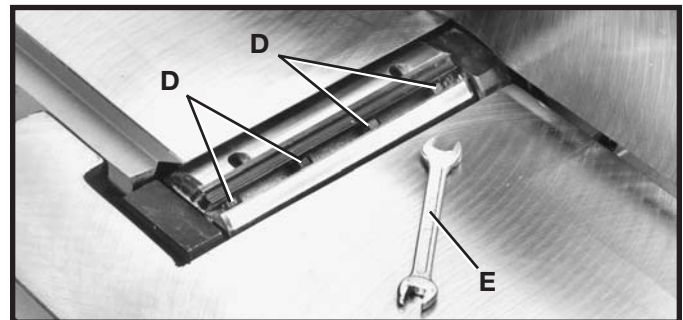
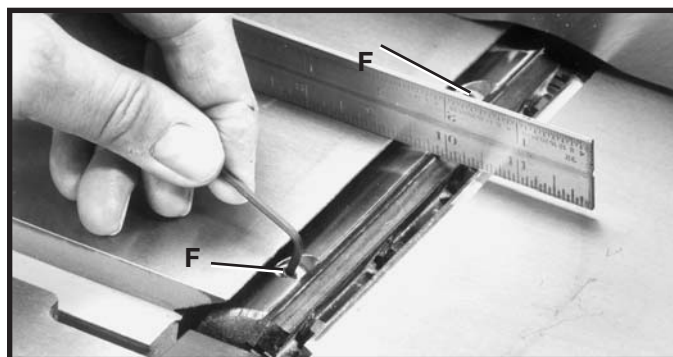
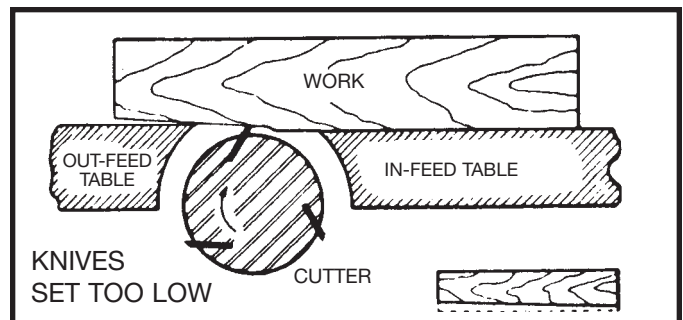

Fig. 41
Fig. 42
Fig. 43
5. If the knife is high or low at either end, slightly turn the four screws (D) Fig. 41, in the knife locking bar clockwise to loosen using the wrench (E) supplied. Then adjust the height of the knife by turning the knife raising screws (F) Fig. 42, counterclockwise to lower and clockwise to raise the knife.
**NOTE:** If the knife is to be lowered it will be necessary to wear protective gloves and carefully push down on the knife with a piece of scrap wood after screws (F) have been turned.
7. If the knives are set too low, the result will be as shown in Fig. 43, and the finished surface will be curved.